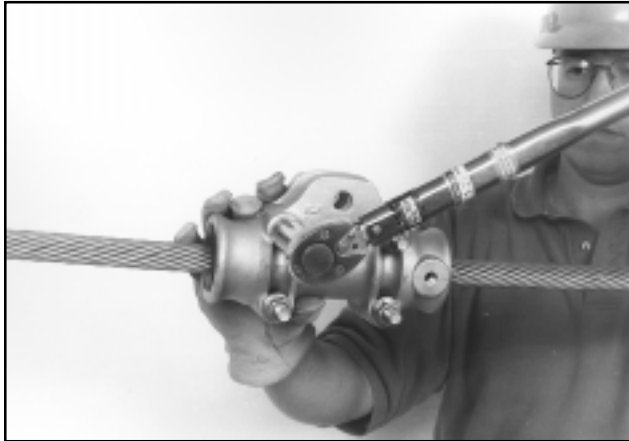

FIGURE 7 - TIGHTEN NUTS
3.03 Install the provided washers, lock washers and nuts onto the U-bolts. Gradually draw the Cushion Clamp halves together by tightening the nuts evenly with a torque wrench. (Figure 7) This will provide even pressure on the captured cable and equal thread engagement on each U-bolt. Tighten the nuts until 30 ft. lbs. of torque is achieved on each. The amount of exposed thread beyond each nut should be approximately the same upon final tightening.